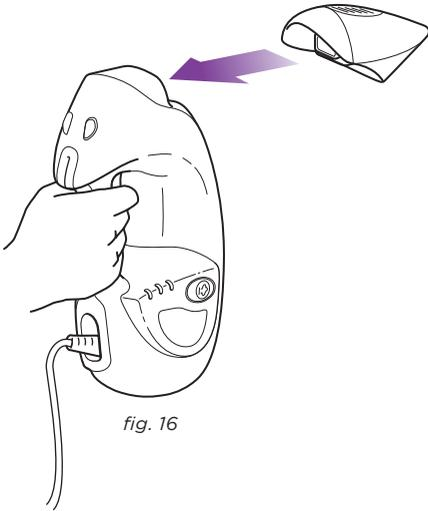

fig. 16
- 1 For spot cleaning and steaming, first attach the Direct Steam Nozzle by pressing the nozzle onto the Handheld Steamer until it clicks into place. (fig. 16)